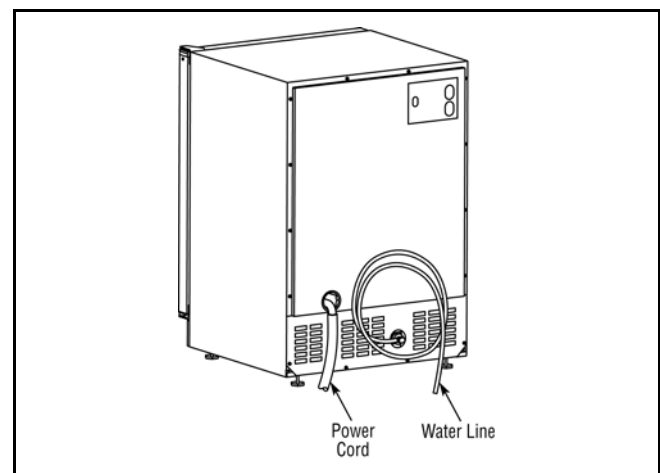

Figure 40
- Connect sufficient tubing to the unit so that tubing may be looped, allowing the unit to be removed for cleaning and servicing (see **Figure 40**). However, make certain that the tubing is not pinched or damaged during installation.
3. Carefully bend the water supply line into position and connect the line to the solenoid valve (see **Figure 40**). Avoid kinking the water supply line.
4. For recessed installations, allow extra water supply line length to provide slack for easy removal from the recessed area (see **Figure 40**). This will also safeguard against kinking the line.